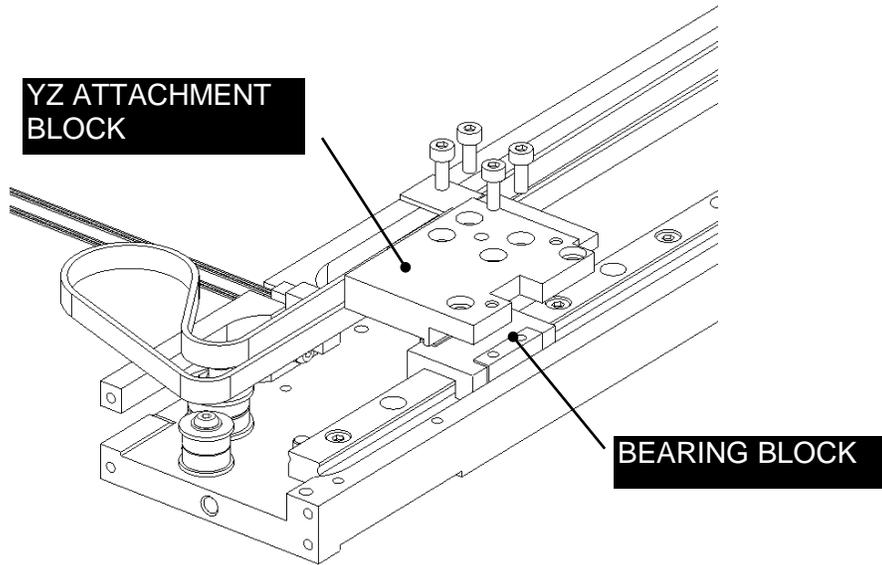

Figure 8-12: Removing the Belt, Part 1
1. Remove the 4 M3x8 caphead screws attaching the YZ attachment block to the rail block (Figure 8-12 and 8-13).